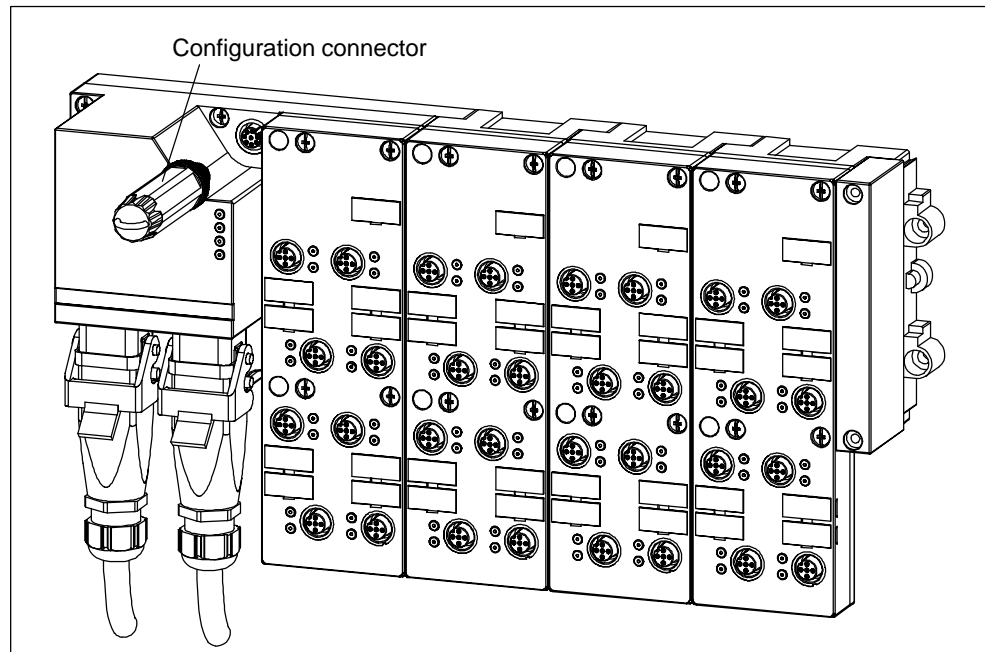

Figure 3-12 Position of the configuration connector on the ET 200X-DESINA/ET 200X-ECOFAST
1. Unscrew the configuration connector from the basic module and disconnect the plug (see Figure 3-12).